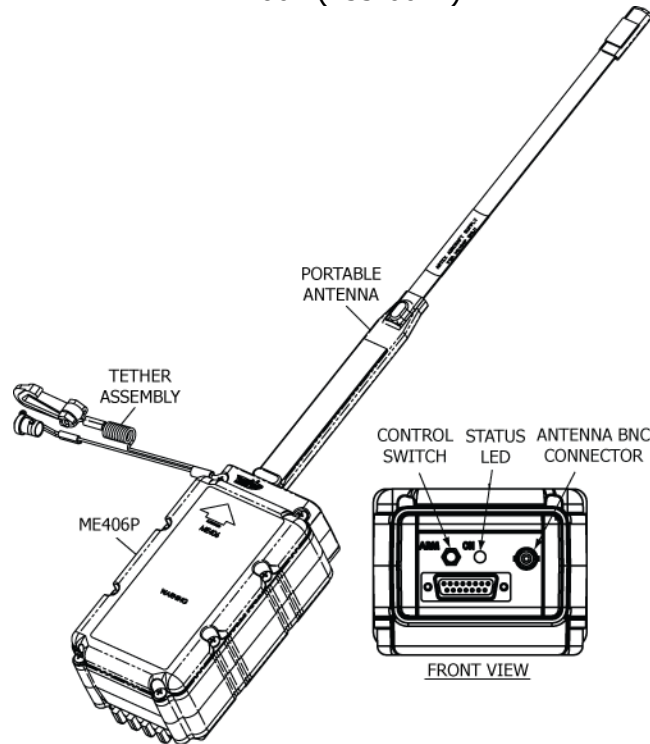

Figure 8 ME406P Portable Configuration
- 1) See Figure 8 ME406P Portable Configuration on page 23.